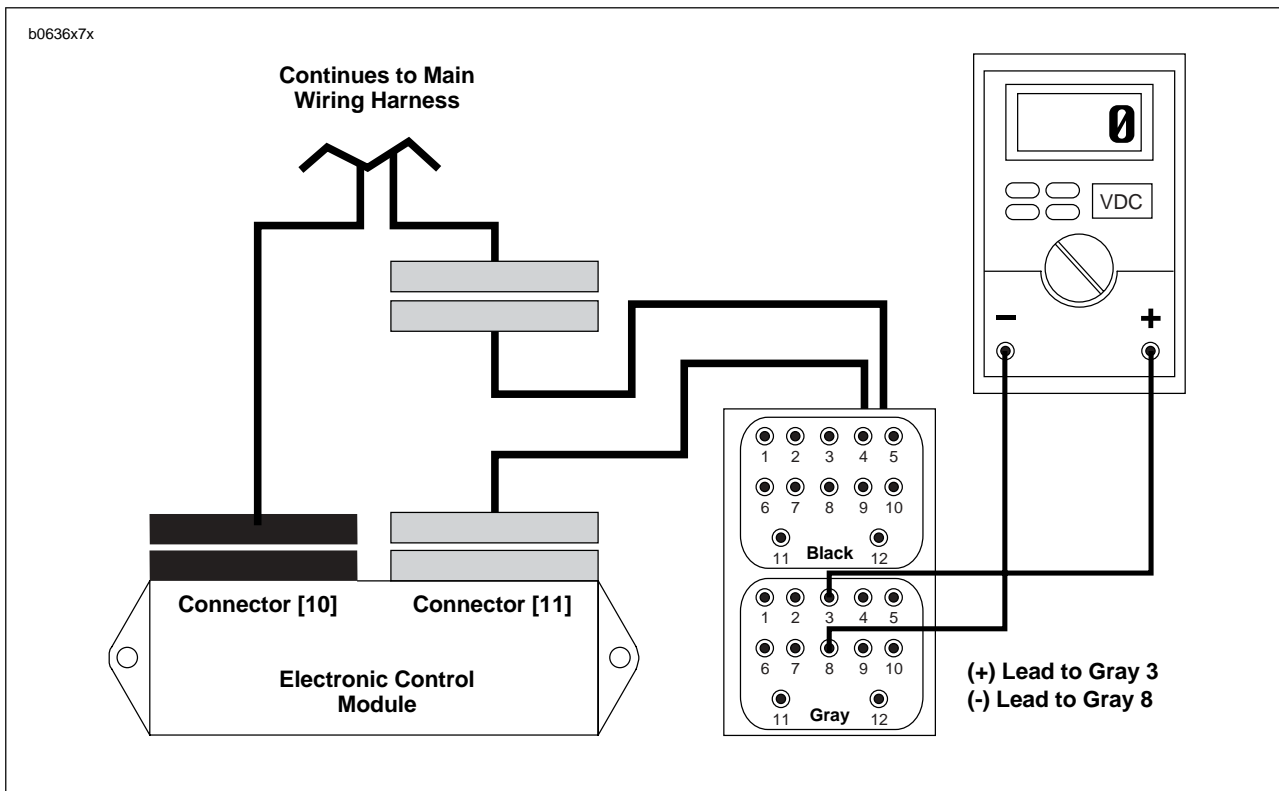

Figure 1-48. Static Timing Connections
- See Figure 1-48. Attach test components.